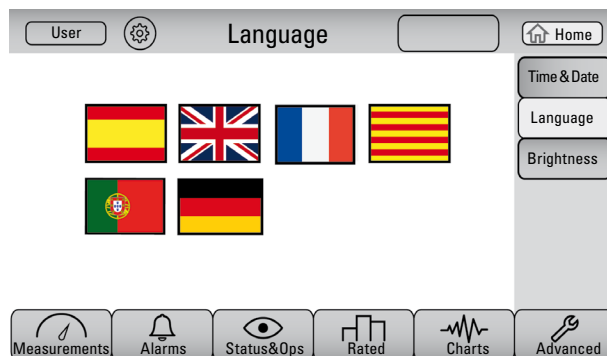

Fig. 47. Languages screen
3. Select the required language, see Fig. 47. From this point on, all menus, parameters and information will be displayed in the selected language.